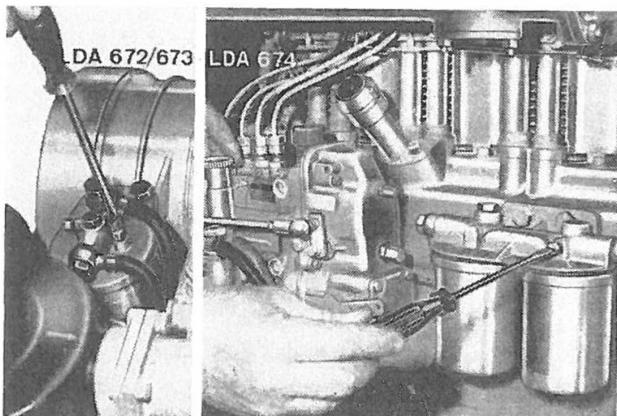

Fig. 102
- Riavvitare la vite (Fig. 102) proseguendo ad azionare la pompa.
2. Manually operate fuel feeding pump and loosen fuel filter bleeding plug until a steady flow is obtained. Turn screw in (Fig. 102) and continue to operate pump.